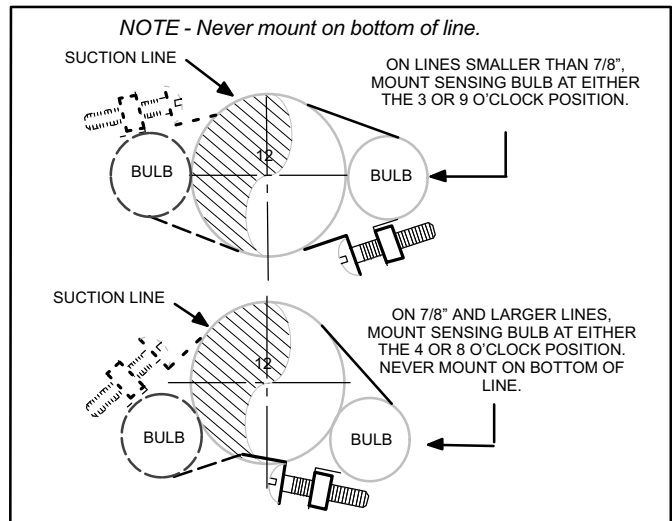

Figure 12. TXV Sensing Bulb Installation
5. Attach the sensing bulb of the TXV in the proper orientation as illustrated in figure 12 to the suction line using the clamp and screws provided.